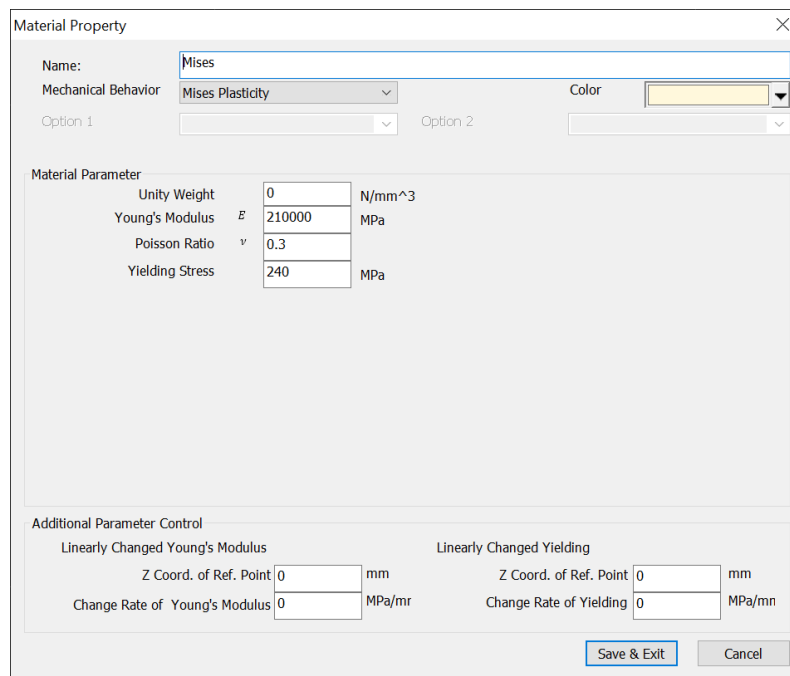

Figure 2.1-19: Define von-Mises plasticity in Example 1
1. Click **"New"** in the material group management window (Figure 2.1-19).